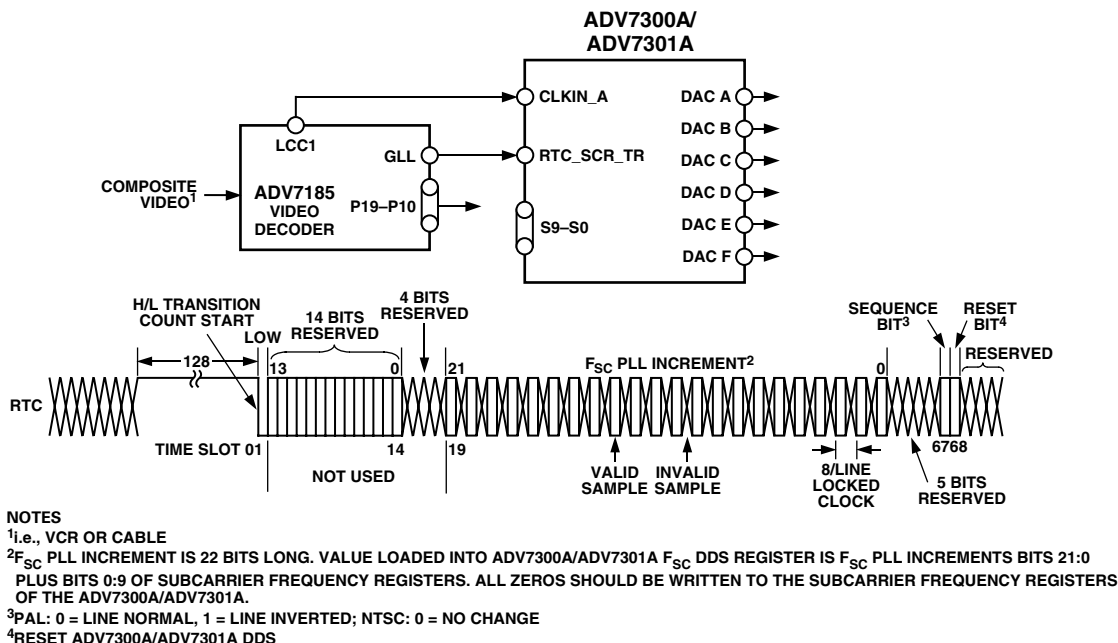

Figure 29. RTC Timing and Connections
- In RTC Mode, the ADV7300A/ADV7301A can be used to lock to an external video source. The Real-time Control Mode allows the ADV7300A/ADV7301A to automatically alter the subcarrier frequency to compensate for line length variations. When the part is connected to a device that outputs a digital data stream in the RTC format (such as a ADV7185 video decoder; see Figure 29), the part will automatically change to the compensated subcarrier frequency on a line-by-line basis. This digital data stream is 67 bits wide and the subcarrier is contained in Bits 0 to 21. Each bit is two clock cycles long. 00h should be written into all four Subcarrier Frequency Registers when using this mode.